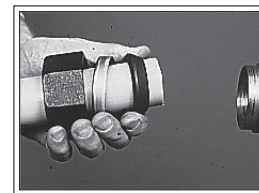

Fig.2
3. Assemble nut, gasket, and retainer cup as a unit and slip onto pipe end before installing lock insert into plastic pipe (Fig. 2) (lock insert flange is larger in diameter than the I.D. of the gasket or nut). Gasket for plastic is un-notched and unbuffered with armor set back from tip and must not be interchanged with regular armored gasket.